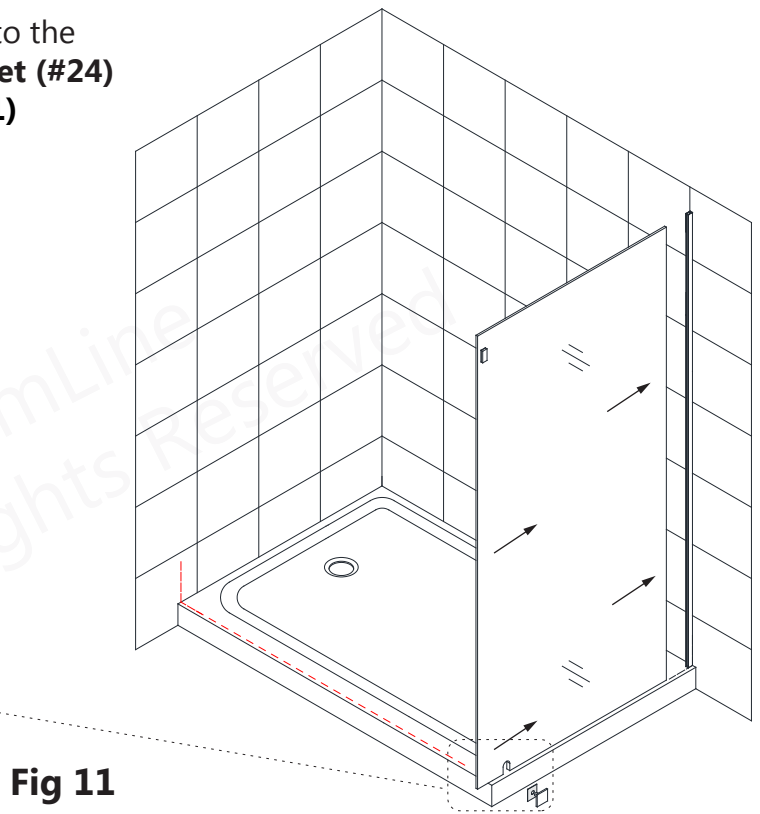

Fig 11
11. Place the **Return Panel Glass (#22)** back into the **U-Channel (#01)** and assemble the **Glass Bracket (#24)** to secure the **Return Panel Glass (#22)**. (**Fig 11**)